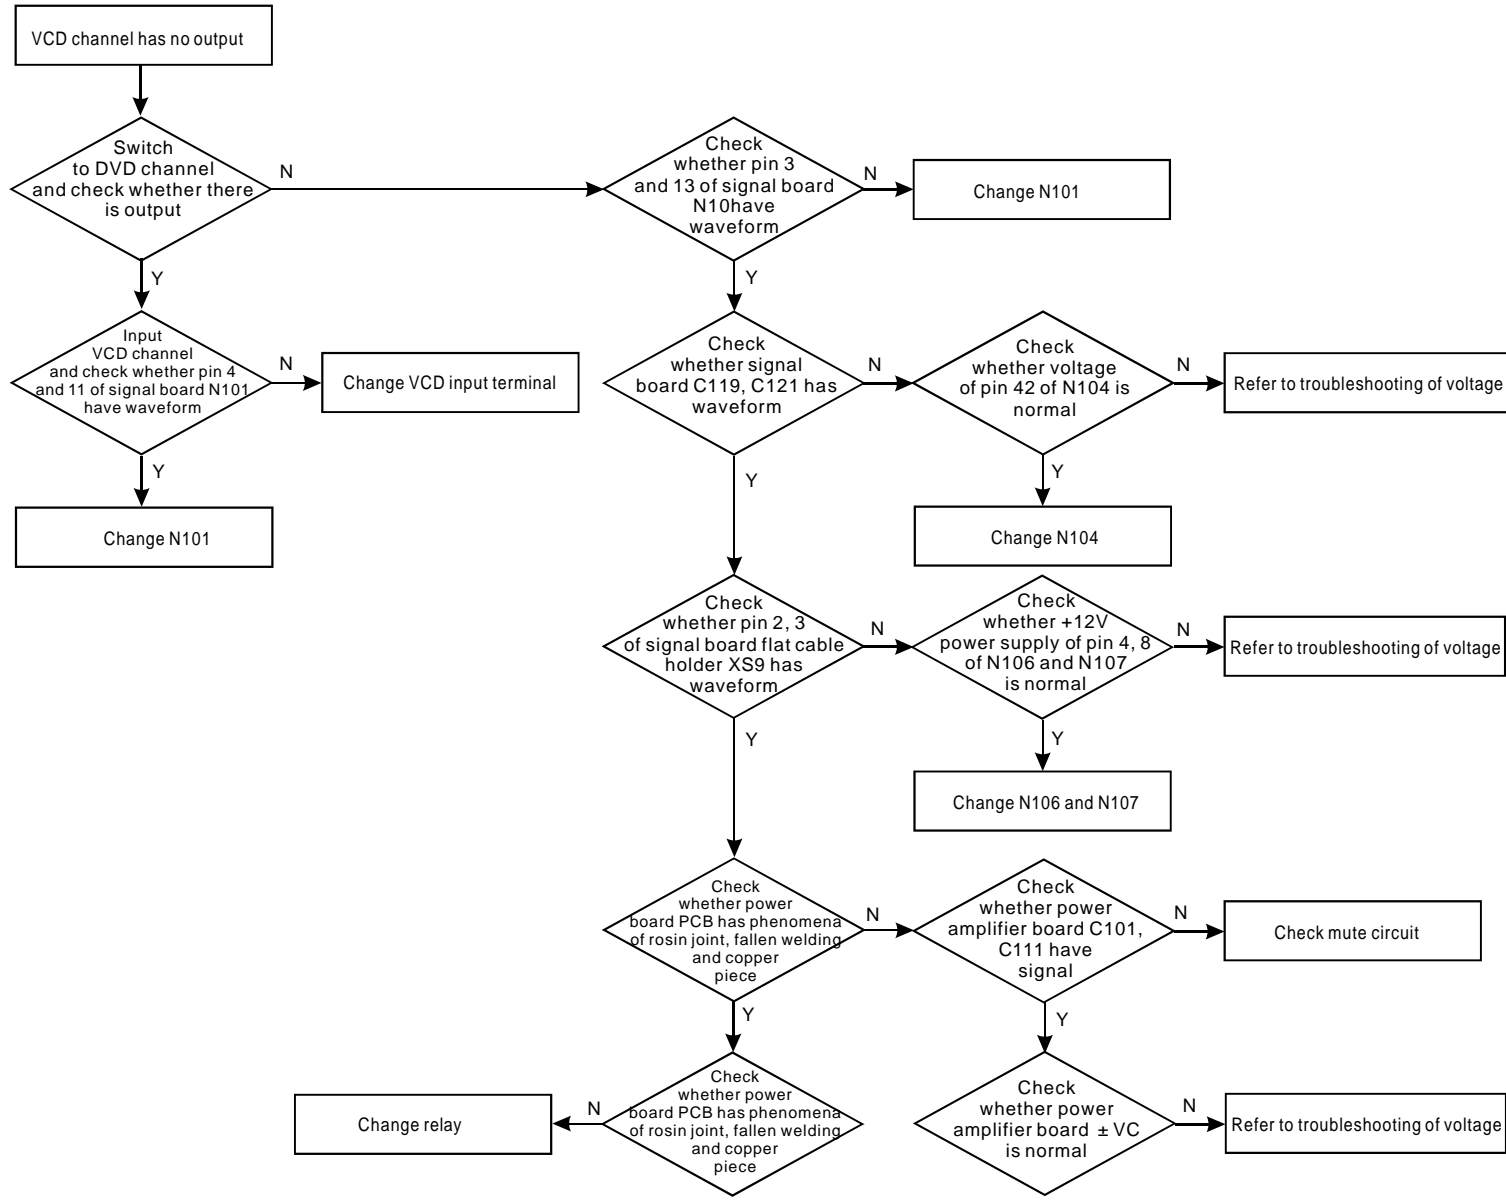

Figure 3.3.2.4 Troubleshooting flow chart for “VCD channel has no output”
5. Troubleshooting process for "DSP has no output" is shown as in the following figure 3.3.2.5: